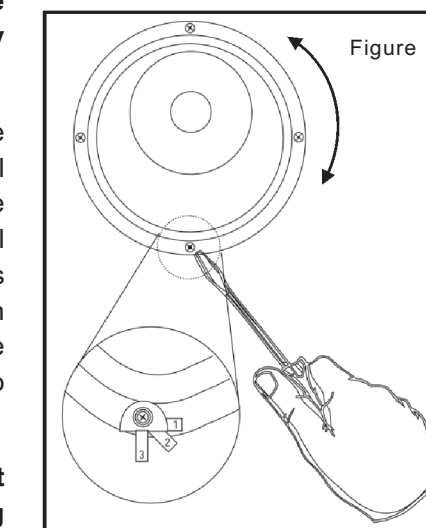

Figure 5
3. Rotate the speaker driver towards the listening area and use one hand to push the speaker into the cut out (again, pay careful attention **not** to push on the woofer's cone this can cause permanent distortion of the voice coil, thus producing mechanical rubbing sound or speaker failure) and the other to turn the screws that engage the installation tabs (see Figure5). Tighten the tabs in a cross or X-pattern until "snug". Be careful not to over tighten the tabs or damage could result. The speaker should appear flush to the surface.